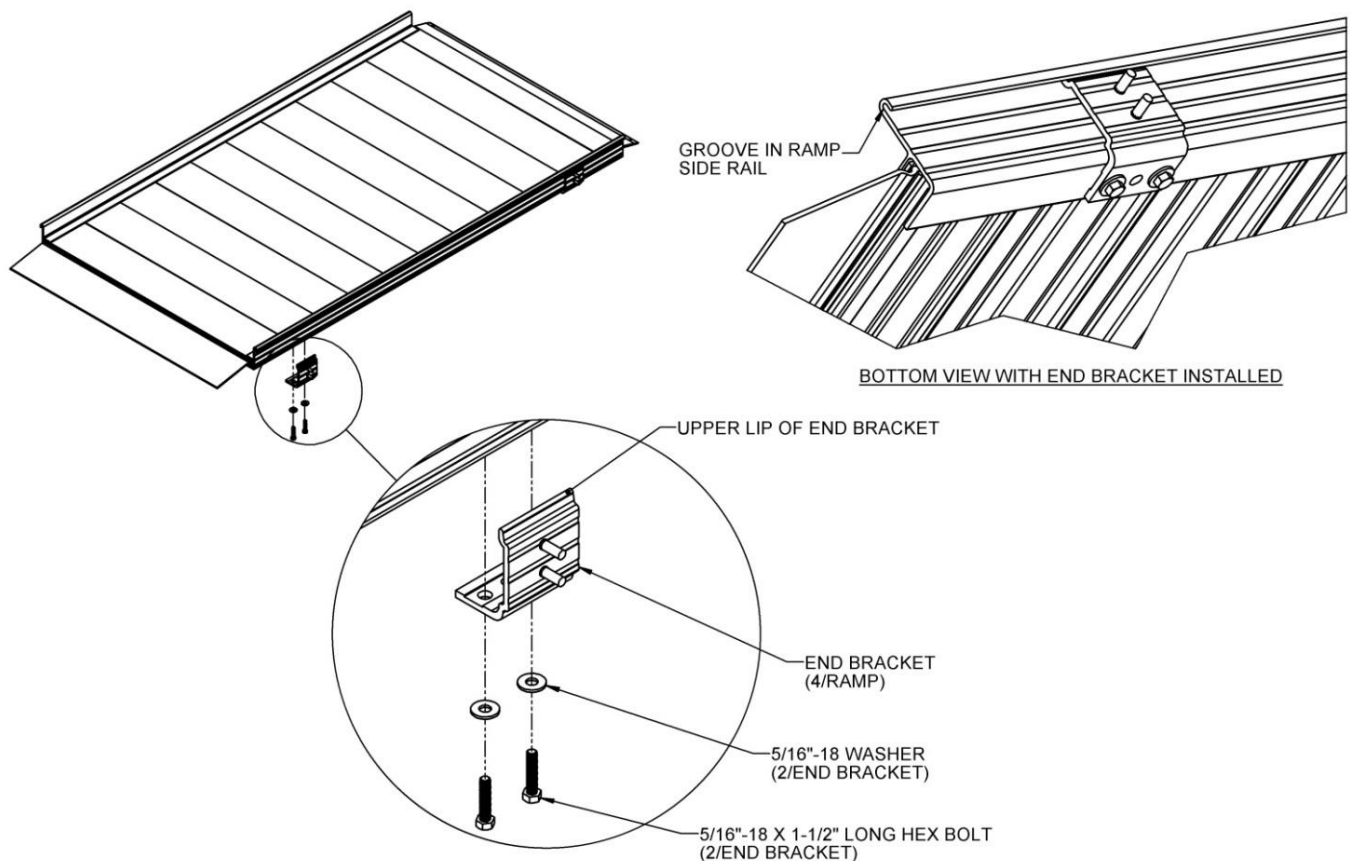

FIG. 4
- 4.2. Locate the two Ramp Handrail End Bracket Pairs (MRHBPR) and install one end bracket at each outside corner of the ramp using two hex bolts and washers into the two threaded inserts at the end of the ramp. As shown in FIG. 4, the upper lip of the end bracket should extend into the groove under the ramp side rail.